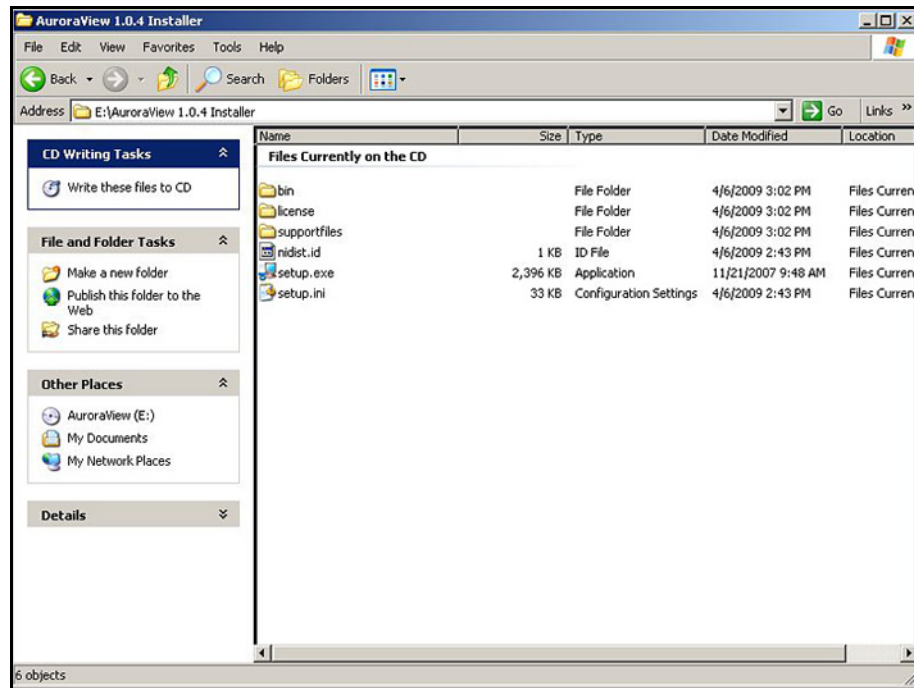

Figure 52: AuroraView Installer
- Browse to the file named "setup.exe" in the root directory of the CD (see Figure 52 below). Double-click the file to start the installation.